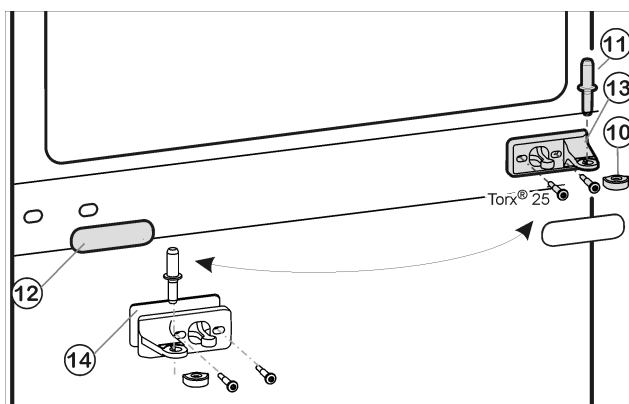
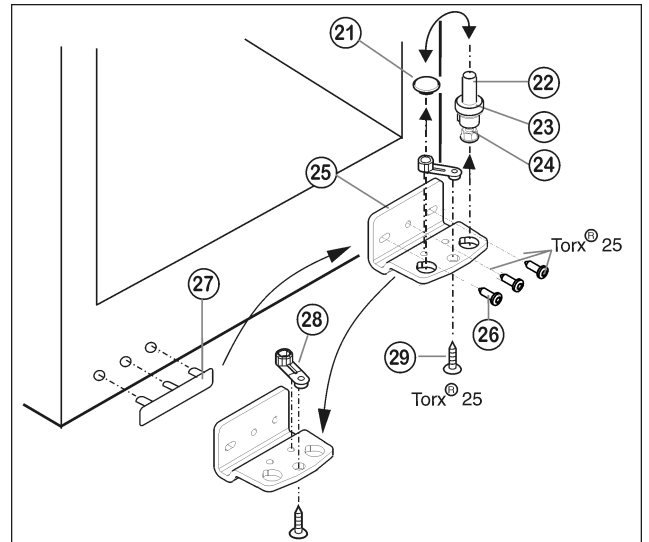

Fig. 5
Fig. 6
- ▶ Draw the middle bearing pin Fig. 5 (11) out of the turn hinge and lower door.
- ▶ Remove the plastic cap Fig. 5 (10).
- ▶ Unscrew the middle turn hinge (2x Torx® 25). Fig. 5 (13)
- ▶ Carefully detach the cover panel Fig. 5 (12).
- ▶ Turn the middle turn hinge Fig. 5 (13) with the washer Fig. 5 (14) through 180° and screw it firmly into place on the new hinge side (**with 4 Nm**).
- ▶ Turn the cover panel Fig. 5 (12) through 180° and snap it into place again on the new handle side.
- ▶ Lift out the bearing pin Fig. 6 (22) together with washer Fig. 6 (23) and foot Fig. 6 (24).
- ▶ Lift off the stopper Fig. 6 (21).
- ▶ Unscrew Fig. 6 (26) the turn hinge Fig. 6 (25).
- ▶ Unscrew Fig. 6 (29) the bearing element Fig. 6 (28), transfer it to the opposite location hole of the turn hinge and screw it firmly into place.
- ▶ Carefully lift off the cover on the handle side Fig. 6 (27) and transfer it to the opposite side.
- ▶ Screw the turn hinge Fig. 6 (25) firmly into place on the new hinge side, possibly using a cordless screwdriver (**with 4 Nm**).
- ▶ Re-insert the stopper Fig. 6 (21) into the other hole.
- ▶ Re-insert the bearing pin Fig. 6 (22) together with washer and foot. In so doing, pay attention that the locating lug points backwards
- ▶ Place the lower door from above onto the lower bearing pin *Fig. 6 (22)*.
- ▶ Place the plastic cap *Fig. 5 (10)* back onto the middle turn hinge *Fig. 5 (13)*.
- ▶ Place the middle bearing pin *Fig. 5 (11)* in the lower door, on the new hinge side, through the middle turn hinge *Fig. 5 (13)*.
- ▶ Place the upper door on the middle bearing pin *Fig. 5 (11)*.
- ▶ If necessary, align the doors to the appliance housing by way of the two oblong holes in the bottom turn hinge *Fig. 6 (25)* and middle turn hinge *Fig. 5 (13)*. To do so, unscrew the middle screw in the bottom turn hinge *Fig. 6 (25)*.